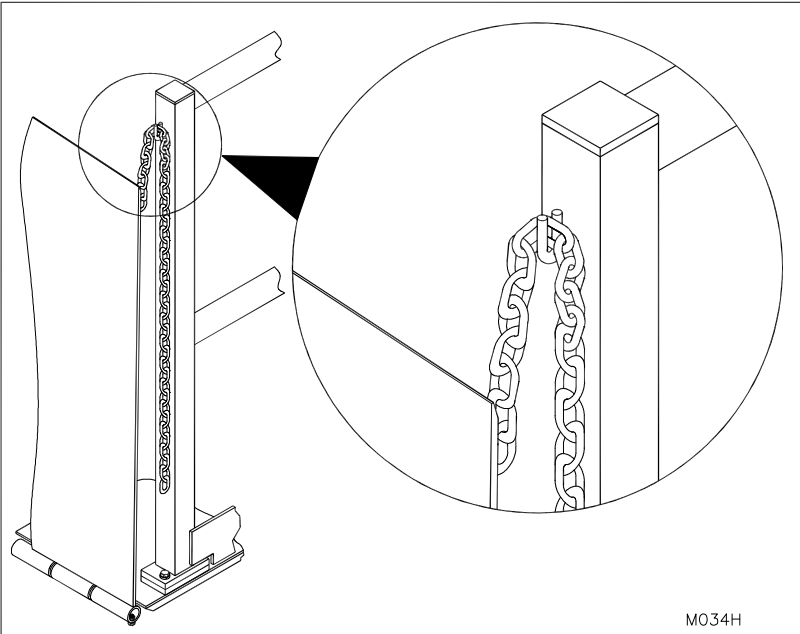
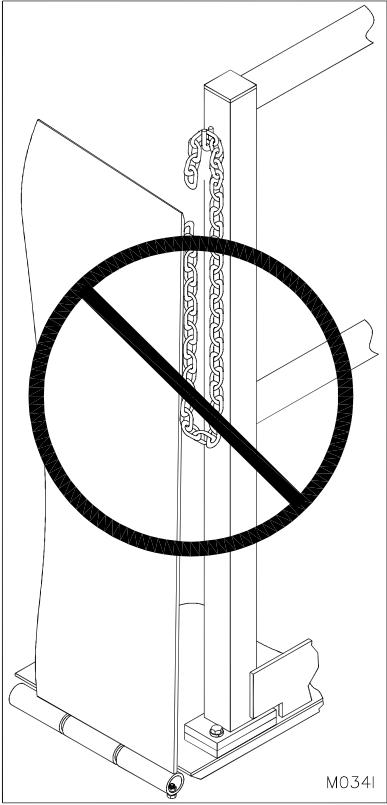

Figure 7: Hinged Bridge in Vertically Stored Position
Figure 8: Hinged Bridge Not Properly Secured (See Figure 7)
7. When not in use, the platform should be in the lowered position with the hinged bridge(s) in an upright vertically stored position with the hinged bridge chain(s) engaged. (See “Figure 7: Hinged Bridge in Vertically Stored Position” on page 14 and “Figure 8: Hinged Bridge Not Properly Secured (See Figure 7)” on page 14).